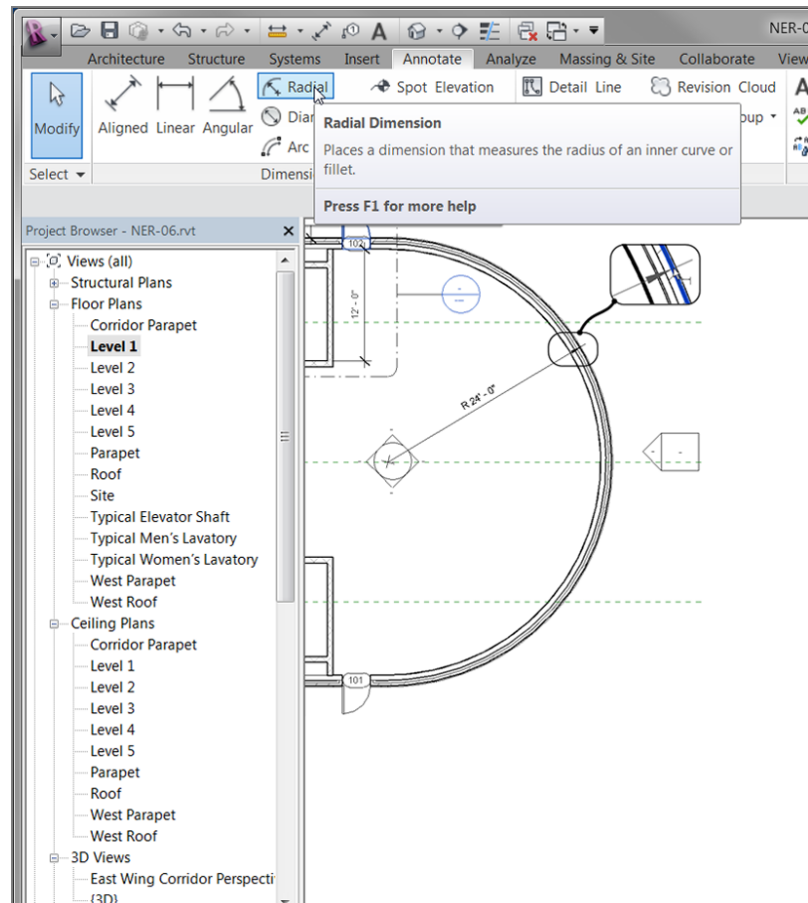

FIGURE 5.20: Adding a radial dimension is about as straightforward as it gets.
3. Pick the outside face of the radial wall, as shown in Figure 5.20.
4. Place the radial dimension somewhere that makes sense. If your model looks like Figure 5.20, you may proceed. If it doesn't, go back and try again.